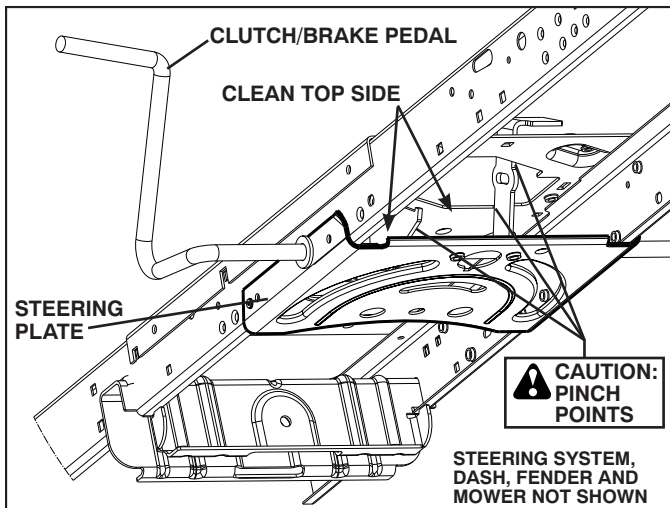

Fig. 17
**CAUTION:** Avoid all pinch points and movable parts (See Fig. 17)